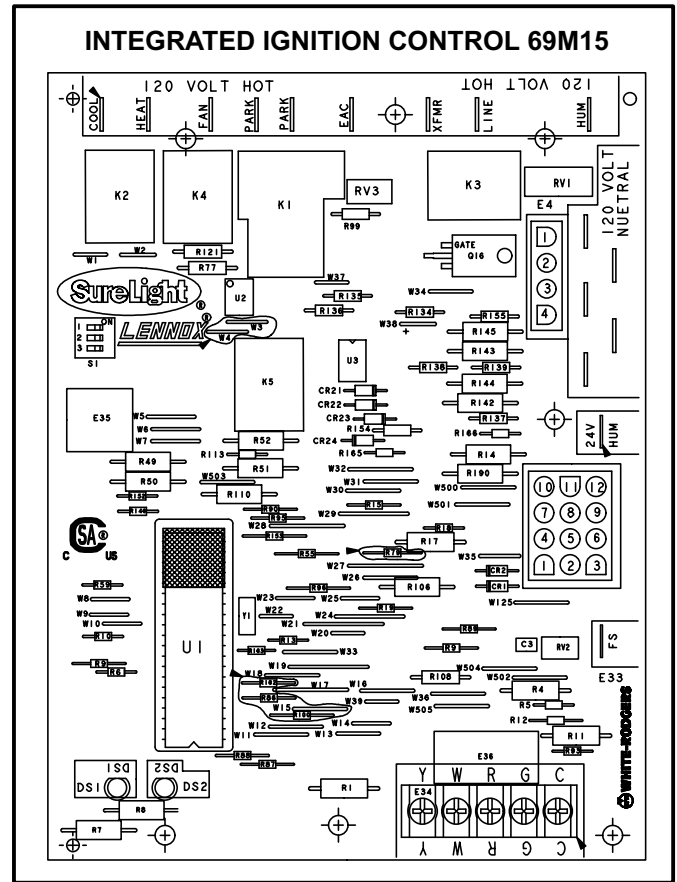
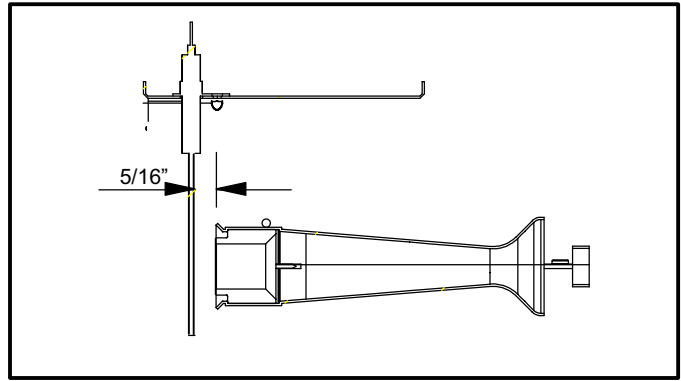

FIGURE 9
**FIGURE 11**
The SureLight system consists of ignition control board (figure 9), ignitor (figure 11) and sensor (figure 12). The ignition control and ignitor work in combination to ensure furnace ignition and ignitor durability. The ignition control, controls all major furnace operations. The ignition control also features two LED lights (DS1 red and DS2 green) for troubleshooting and two 120 volt accessory terminals each rated at (1) one amp. A 24 volt accessory terminal rated at 0.5 amps is also provided. Table 5 shows 24 volt and 120 volt control terminal designations. Tables 6 and 7 show jack plug terminal designations. See table 4 for troubleshooting diagnostic codes. Units equipped with the SureLight system can be used with either electronic or electro-mechanical thermostats without modification. Each time power is applied to the furnace, the ignition control performs a selfcheck. The SureLight ignitor is made of durable silicon-nitride. Ignitor longevity is also enhanced by voltage ramping by the control board. The ignition control finds the lowest ignitor temperature which will successfully light the burner, thus increasing the life of the ignitor.
The SureLight® ignitor is made of durable silicon nitride. Ignitor longevity is enhanced by controlling voltage to the ignitor. The board finds the lowest ignitor temperature which will successfully light the burner, thus increasing the life of the ignitor. Due to this feature of the board, voltage cannot be measured so ignitor must be ohmed. Ohm value should be 10.9 to 19.7. See figure 11 for ignitor location.